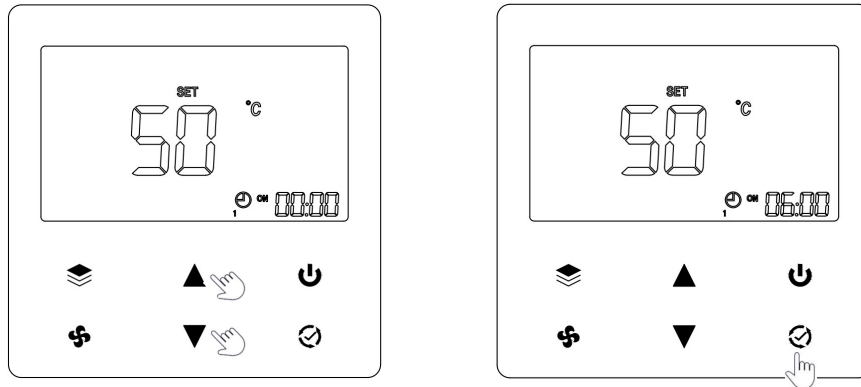

Figure 7. Setting of startup time for time period 1
3. After the timing is enabled (that is, the timing display is ON), press “ ✓ ” to enter the startup time setting with the time blinking (as shown on the left in Figure 7).
4. Set the startup time by pressing “ ▲ ” or “ ▼ ”, for example, set the startup time to 6:00. When the time is adjusted to 6 o'clock, press “ ✓ ” to complete the setting of startup time in period 1 (as shown on the right in Figure 7).